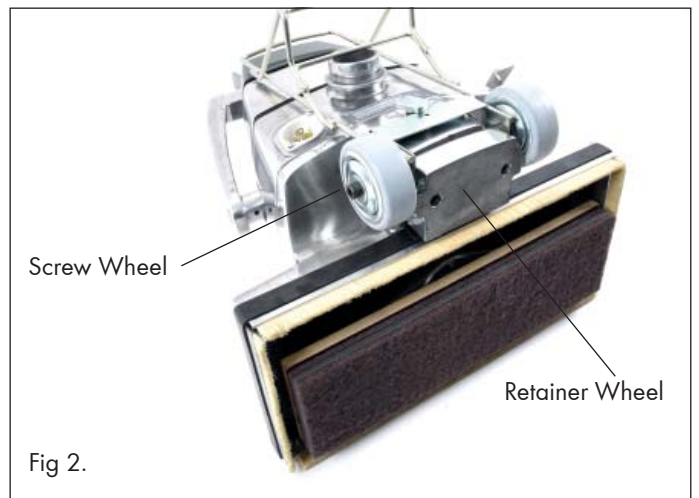

Fig 2.
4. Using the 6mm Hex Allen Key remove one screw from one Wheel only and remove the Wheel Fig 2.